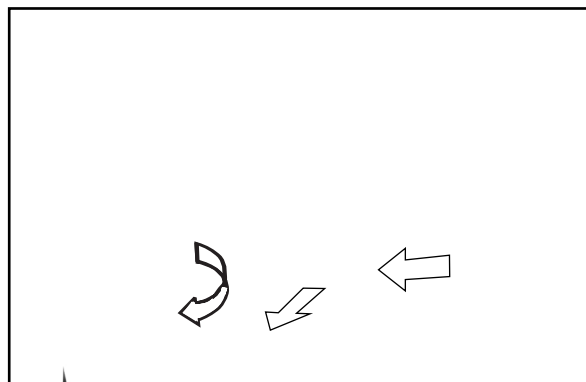

Figure 14.
11.2. Removing the handle (fig. 14.)